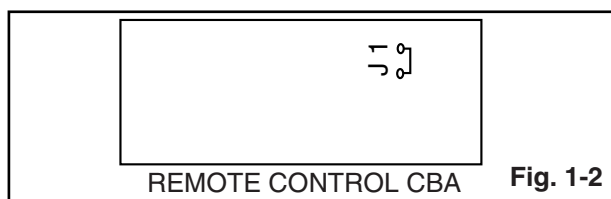

Fig. 1-2
2. Add J1 (Jumper Wire) to the remote control CBA. (Fig. 1-2)